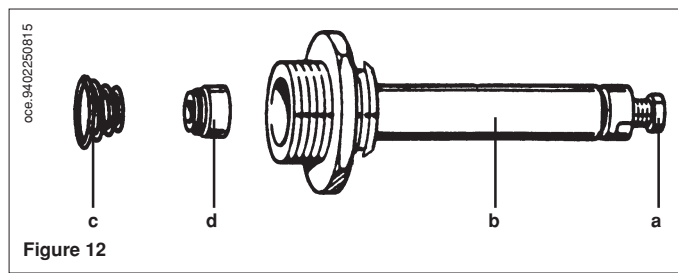

Figure 12
- replace the spring and secure it into place correctly (Figure 12);
- without exceeding fasten the black screw (a) onto the tube (b) (Figure 12);
- open the gas tap and rotate knob (1) to set the boiler to the Winter setting;
- check that boiler feeding dynamic pressure, as measured at the inlet gas valve pressure test point (Pa) (Figure 12) is correct (30 mbar for G30, 37 mbar for G31, 20 mbar for natural gas);
- unscrew the black screw (a) shown on figure 12 to obtain the pressure settings corresponding to reduced heat output (see table 1 on page 15).